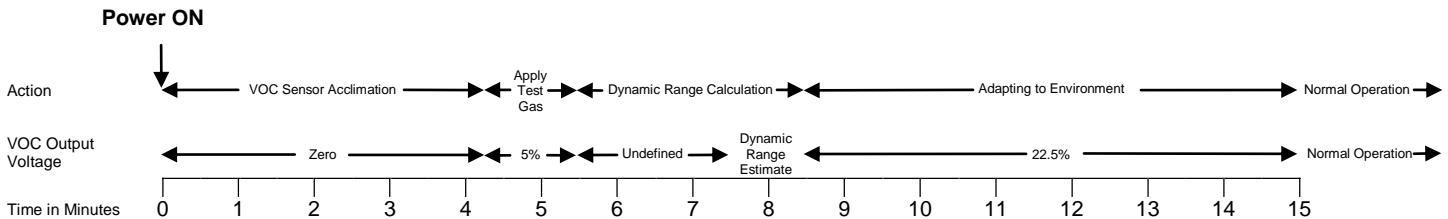

Figure 6: Sensor Start-up Timeline
At each power up, the sensor enters the start-up period for 15 minutes. The VOC output will follow the timing shown in figure 6.
- Remove sensor power for at least one minute and reapply. The VOC sensor will set the VOC output to zero volts. (Power ON in figure 6)
- The 5% output voltage confirms that the VOC sensor is in its verification/commissioning test. (Apply Test Gas in figure 6)
- Read and record the VOC output voltage approximately 2 to 4 minutes following the stimulus gas application to determine the dynamic range measurement. (Dynamic Range Estimate period in figure 6)